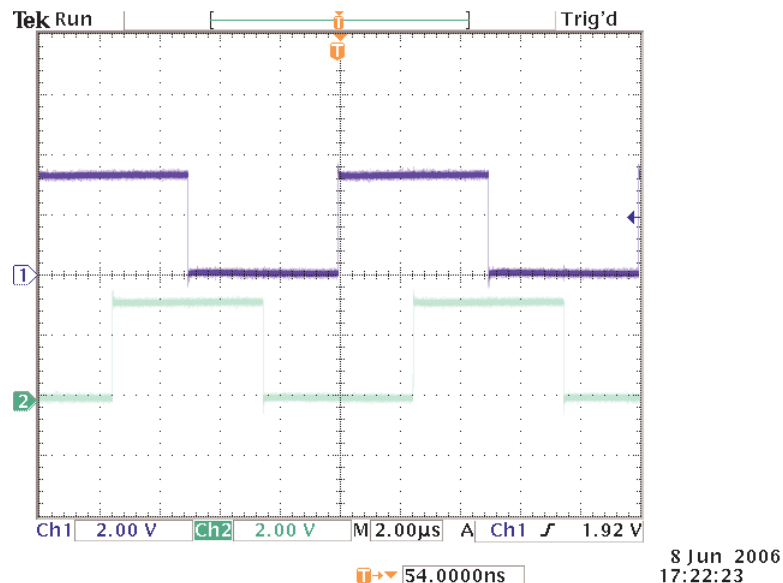

Figure 6. PWM waveform from Build 14 on EPWM1A and EPWM2A.
7. Inspect the PWM output on EPWM1A (P8, pin 9) and EPWM2A (P8, pin 11) on the EZDSP. Vary the duty cycle by modifying the value of the variable 'phase'. A screen capture of the PWM waveform is shown in Figure 6, with phase set to a value of 0x4000.